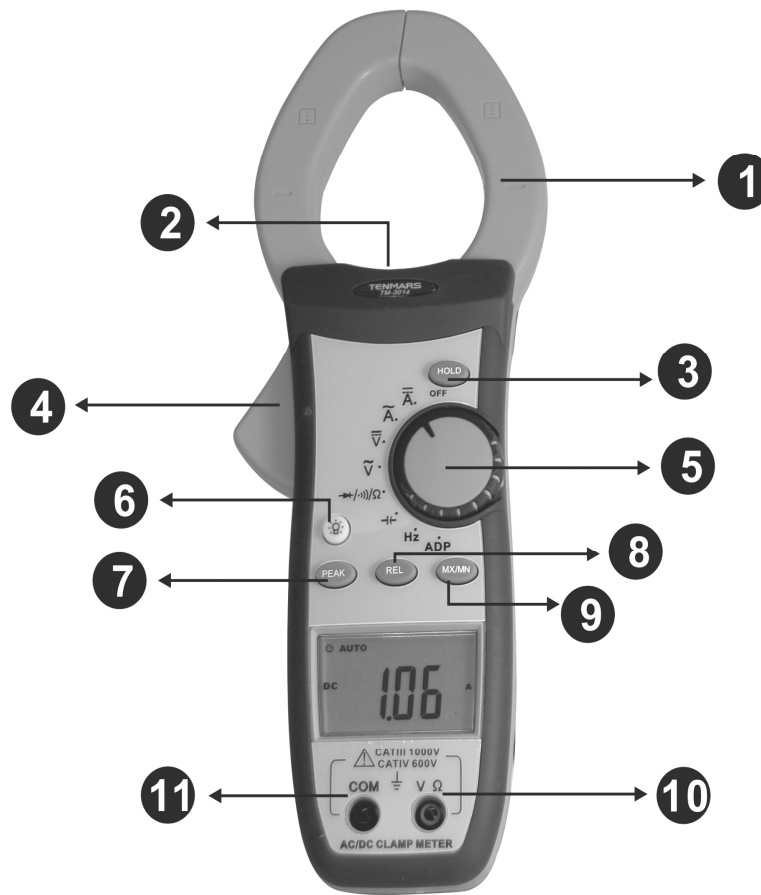

Fig. 1: Instrument description
Take care not to allow your hand to pass over the Safety Guard (see Fig.1, pos.2) on current measurements and voltage measurements using the holster